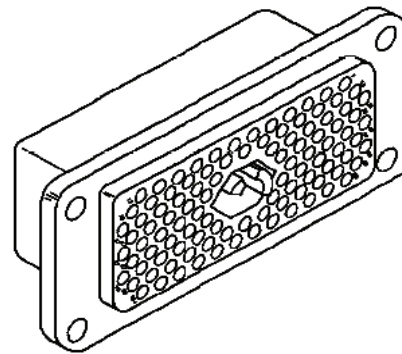

Figure 1. MIL-C-85028 Typical Connector
2. This Work Package (WP) covers environment and fluid resisting, rectangular, rack and panel connectors, manufactured in accordance with MIL-C-85028, both military and commercial, having individually sealing pin and socket crimp removable contacts, designed for -85°F (-65°C) to +302°F (+150°C) operating temperature (Figure 1).